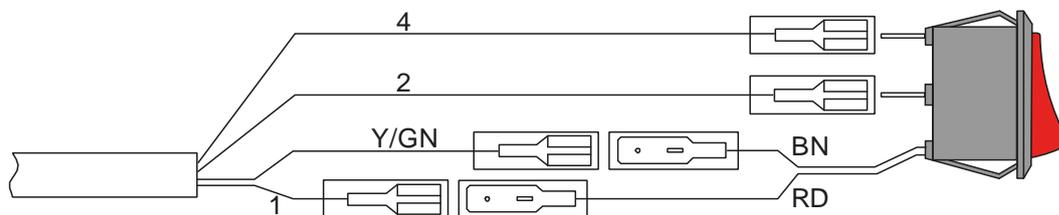

Figure 25: Control unit connection
- ▶ Establish an electrical connection as per the **PALFINGER Tail Lifts** circuit diagram (see also Figure 25).